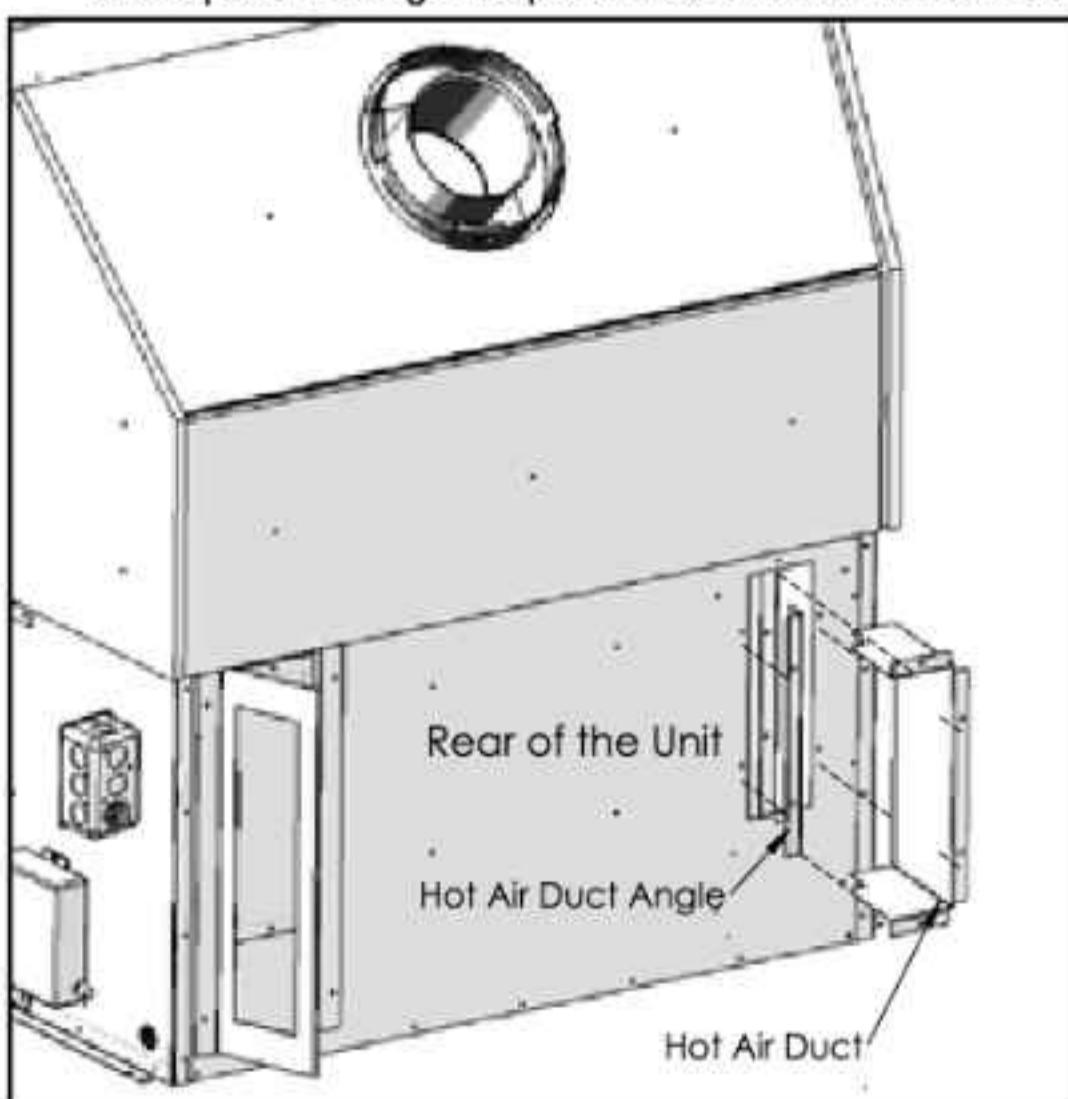

Figure 3: Install the hot air ducts.
2. Insert the hot air duct and the hot air duct angle into the cut out (refer to Figure 3). Secure the ducts to the back of the fireplace through the pre-drilled holes with hex head